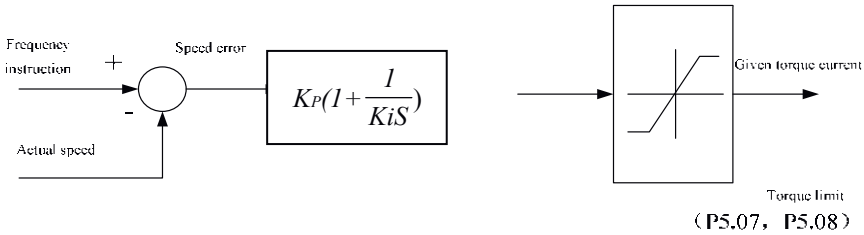

Fig. 6-14 Simplified block diagram of ASR
- Speed regulator (ASR)'s structure is shown in Fig.6-14, where  $K_p$  is proportional gain P, and  $K_i$  is integration time I.